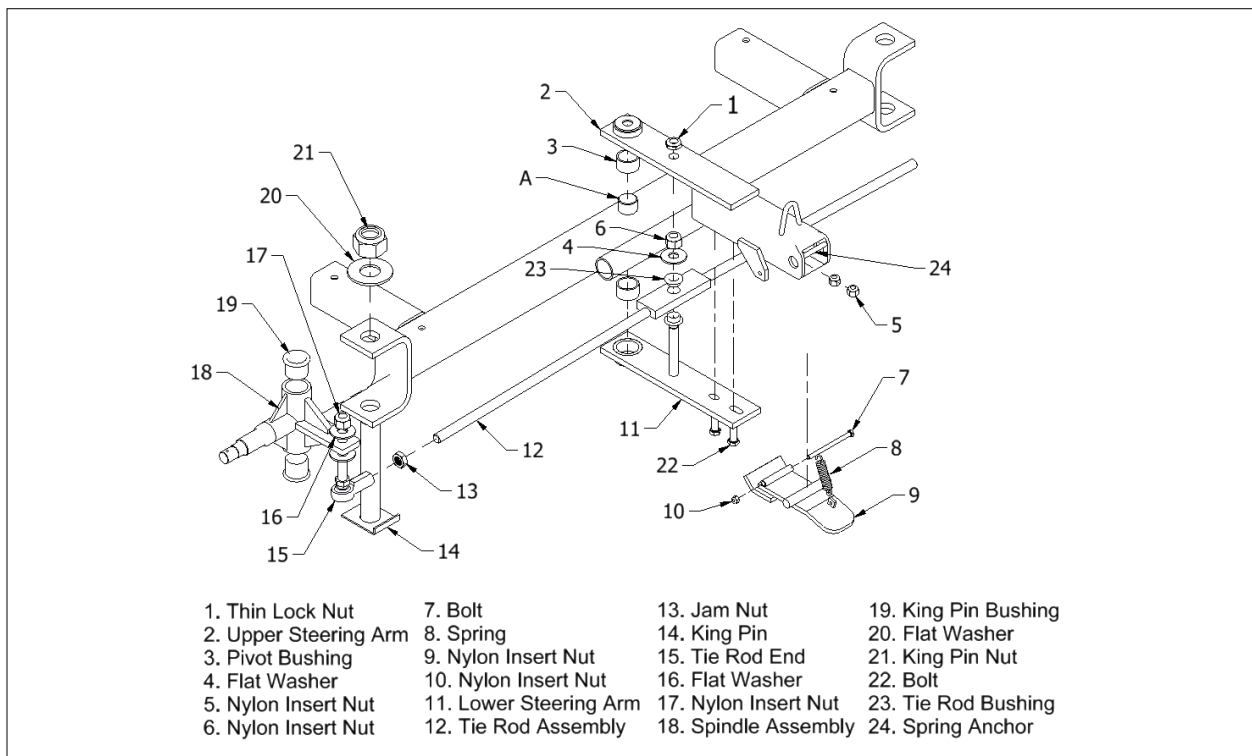

Figure 4-5 Exploded View of Undercarriage
(The remaining steps are illustrated in Figure 4-5)
To remove the spindle assembly, follow the maintenance steps for the front hub assembly before beginning the next steps. (See Figure 4-5).
- a. Remove the thin lock nut (1).
- b. Remove nuts (17) and flat washers (16).
- c. Remove bolts (22) and nuts (5). Allow lower steering arm subassembly (11), bushing (3), and tie rod assembly (12) to drop down; place to the side.
- d. Lift upper steering arm subassembly vertically to clear pivot pin (reference arrow (A)), then pull to clear tank and front axle tube.
- e. Remove tie rod assembly (12) by removing nut (6) and flat washer (4). Note the presence of the bushings (23).
Refer to Figure 4-5 for the removal of the tie rod. Before beginning this process make sure that you have followed the steps for the steering arm assembly. **Note presence and location of bushings (23) when removing tie rod assembly from steering arm assembly.**